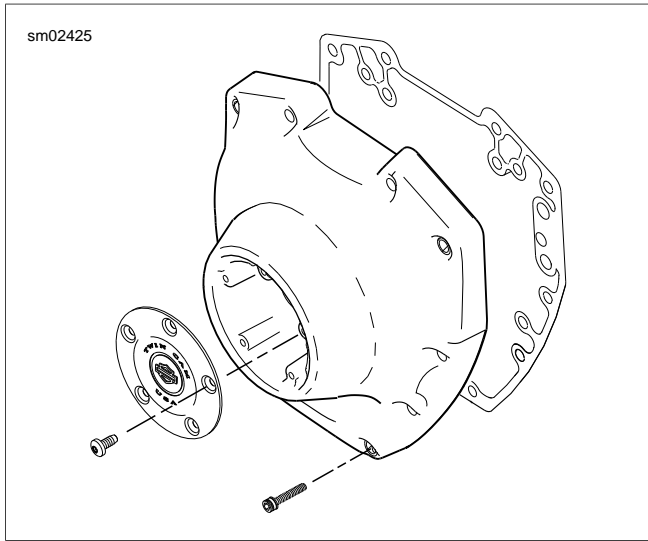

Figure 3-66. Cam Cover Gasket
11. Apply oil to bottom of **new** crank flange bolt head and washer (3). Loosely install to secure crank sprocket (4) to end of crankshaft.
12. Apply oil to bottom of **new** rear cam sprocket bolt head and washer (1). Loosely install to secure rear cam sprocket (2) to end of camshaft.
- c. Final tighten the rear cam sprocket bolt (1) to 34 ft-lbs (46.1 Nm).
- d. Final tighten the crank sprocket bolt (3) to 24 ft-lbs (32.5 Nm).
16. See Figure 3-66. Align holes in **new** cam cover gasket with those in the crankcase flange.